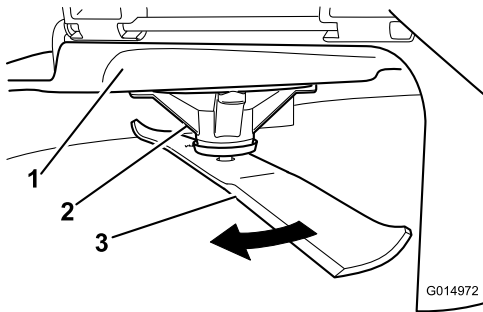

Figure 114
2. While wearing thickly padded gloves, or other adequate hand protection, slowly rotate the blade into a position that allows you to measure the distance between the cutting edge and the level surface the machine is on (Figure 114).